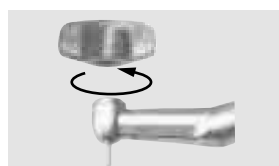

Fig.11
- (1) Removing the cartridge
- ① Mount a dummy bur in the chuck.
- ② Set the wrench on the head cap, turn the wrench counter-clockwise and remove the cap. (Fig.11)
- ③ Push up the dummy bur, and the cartridge is easily removed from the head.
- ④ Clean the head interior, when dirty, with PANA-SPRAY.